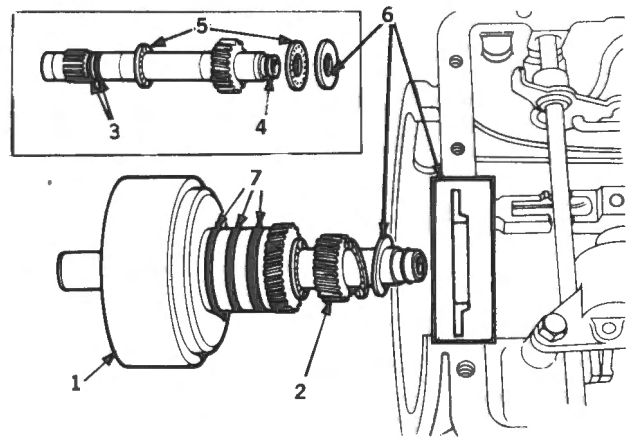

Fig. M-73
Refer Fig. M-73.
- (b) Refer Item 6. Fig. M-73. Ensure the bearing thrust plate is fitted as shown, thrust face toward the bearings so that the spigotted side will locate in the gear carrier.